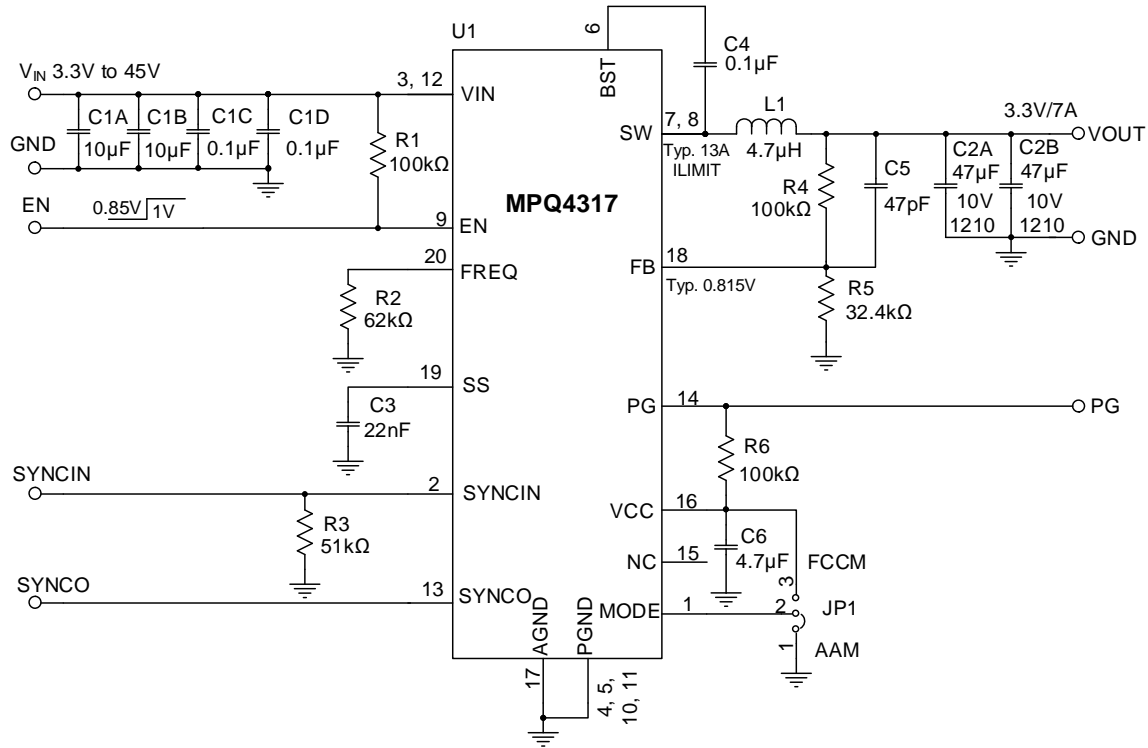

Figure 11: Typical Application Circuit ( $V_{OUT} = 3.3V$ ,  $f_{sw} = 470kHz$ )
9) The recommended PCB layout is based on Figure 11 .